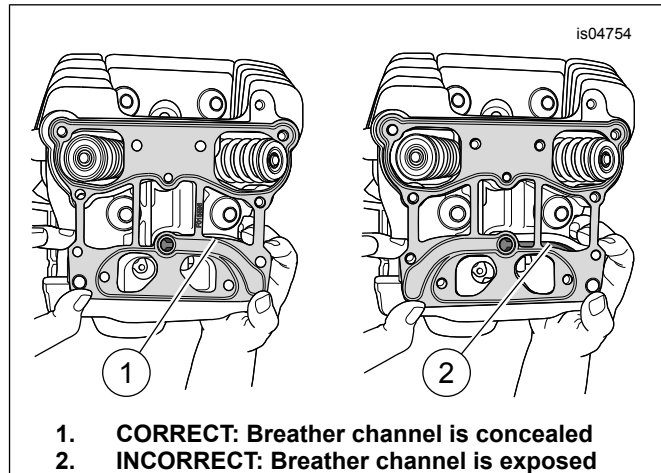
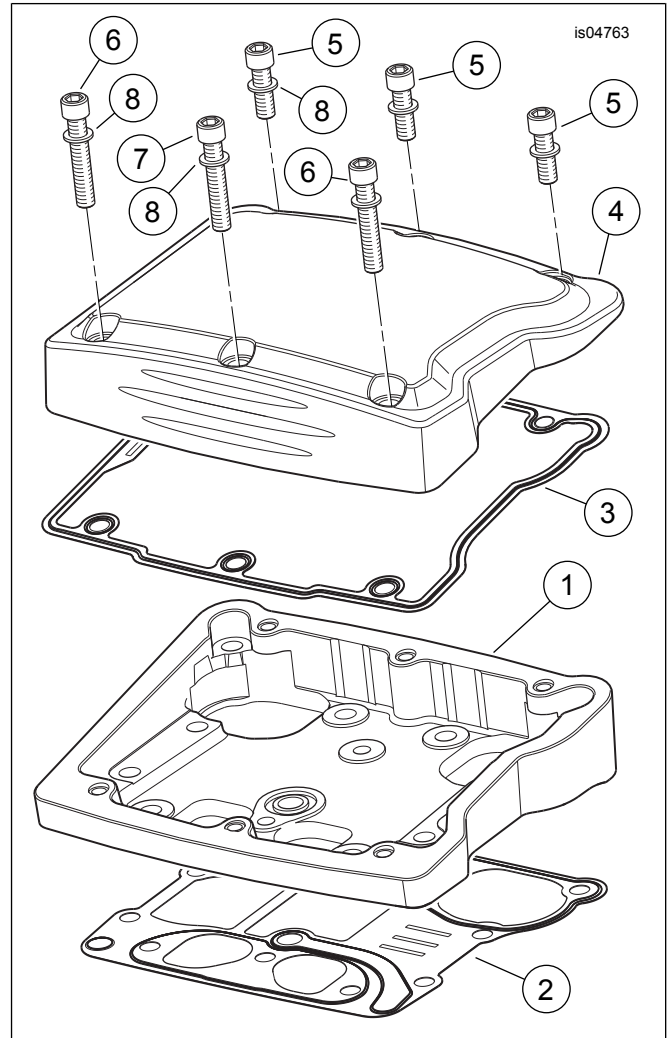

Figure 7. Rocker Housing Gasket Installation (Rear Cylinder Shown)
Figure 12. Service Parts, Forged Billet Rocker Box Cover Kit
1. See Figure 12. Install the **new** rocker housing gasket (2) from the kit onto the cylinder head flange. The gaskets are identical, but are marked to indicate proper installation orientation for the front or rear cylinder. Verify that the rocker housing gasket is installed correctly by ensuring that the breather channel is concealed. See Figure 7.
14. See Figure 12. Install a new rocker cover gasket (3) from the kit onto the cylinder head flange. Place the rocker box cover (4) into position. Match the indent in the rocker cover with the indent in the gasket, and align the holes in the cover with those in the gasket.